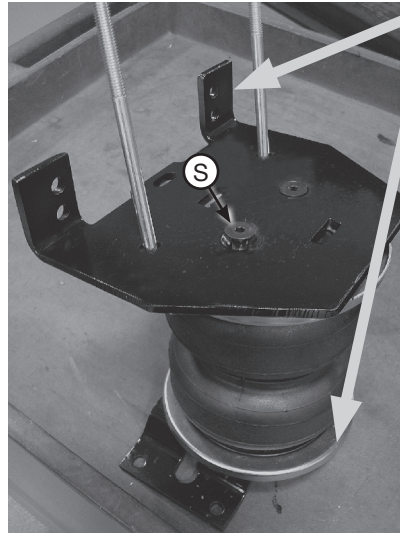

fig. D.9
4. Insert two 3/8"-16 x 10" carriage bolts (K) through the square holes in the lower bracket main plate (B) (Fig. D.9).